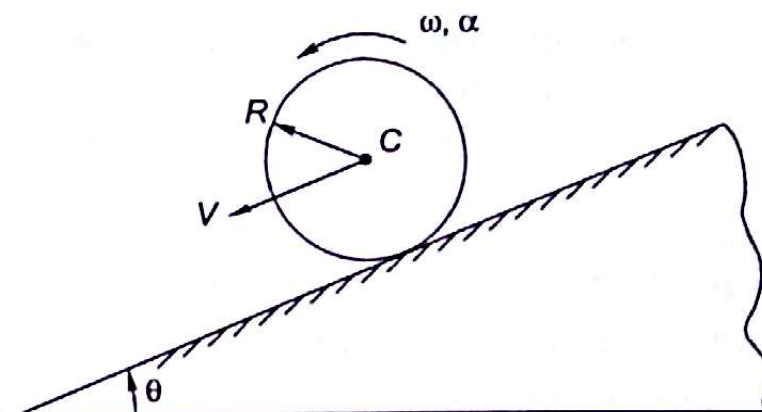

Fig. 20.9
- 20.4 A cylinder of radius R , mass moment and moment of inertia I about centre C rolls down the inclined plane as shown in Fig. 20.9. Cylinder starts from rest, what will be its velocity after t seconds if $\theta = 30^\circ$?